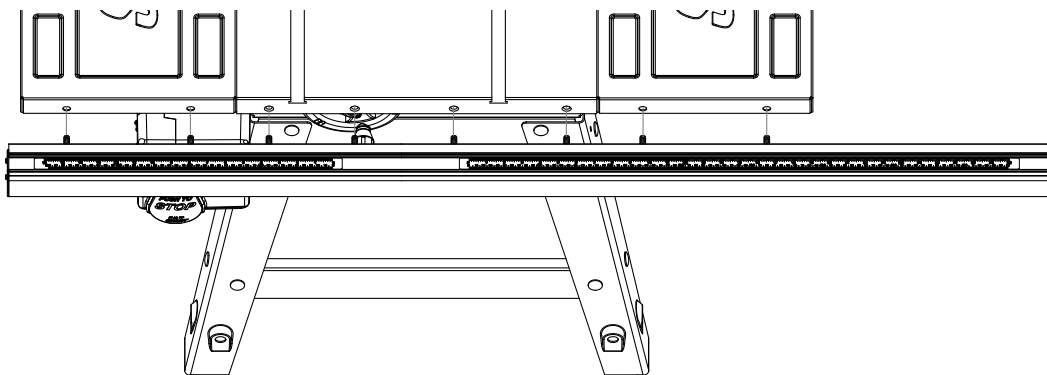

Fig. 3
3. Adjust the position of each square head screw so that all eight screws align with the corresponding mounting holes in the front edge of the table top and extension wings (see Fig. 3). Position the front rail against the edge of the table so that the eight screws extend into their corresponding mounting holes. Make sure the rulers on the front rail face up.